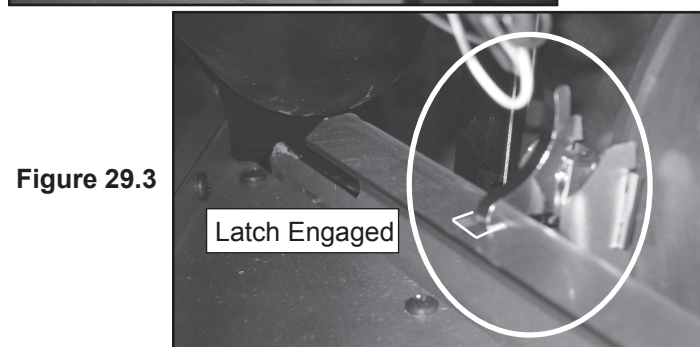

Figure 29.3
10. When the blower is properly positioned the latch will engage the notch to hold the blower in place. **Figure 29.3.**